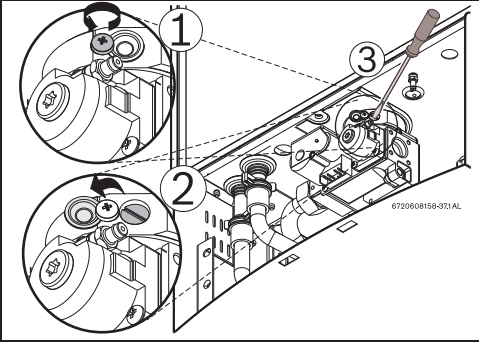

Fig. 45 Adjusting P1 CO2 level
Loosen yellow painted philips screw (Fig. 45,[1]) and cover should rotate down (Fig. 45,[2]) revealing a recessed brass slotted screw. (Fig. 45, [3]).
Remove yellow painted #40 Torx cover from the front of the gas valve, Fig. 45 . A plastic #40 Torx screw will be revealed.
- Return slotted screw cover to original position and tighten the philips screw, Fig. 45.